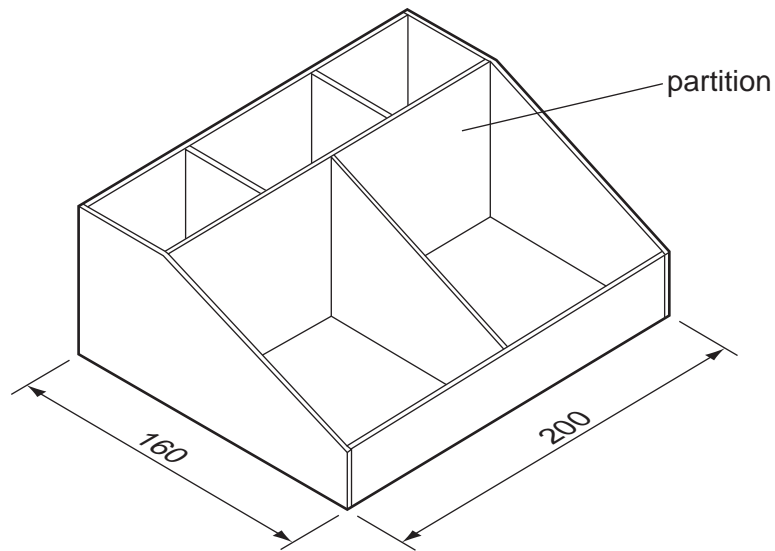

Fig. 6
12 Fig. 6 shows a desk tidy made from acrylic.
- (d) (i) Name a solvent that could be used to cement the partitions into the desk tidy as shown in Fig. 6.